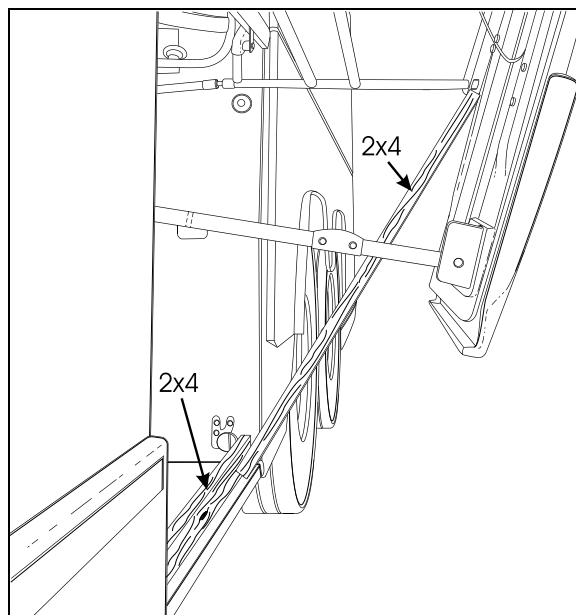

FIGURE 78: PANTOGRAPH ADJUSTMENT
*Refer, if needed, to Figure 78 for identification of door components.*